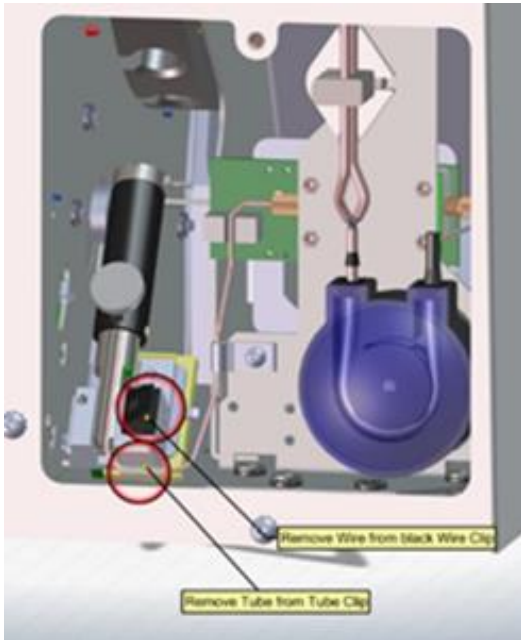

Figure 4
4. Remove the Probe Wire from the black Wire Clip, and the Needle Tubing from the Tube Clip as shown below in Figure 4.